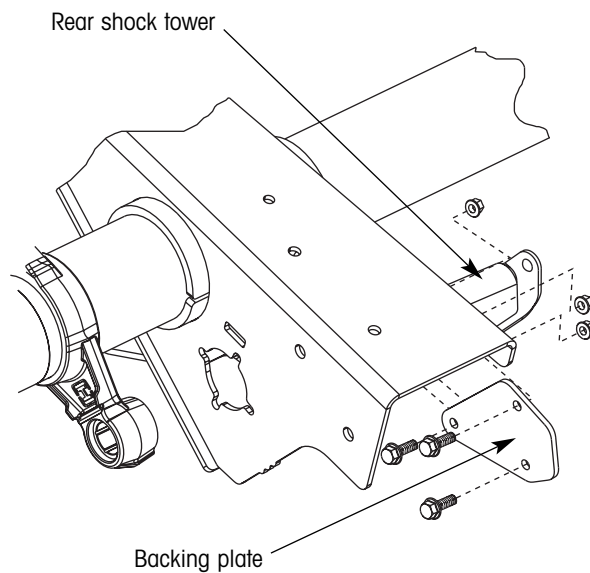

Figure 4. Reinforcement kit installation
2. From inside the suspension beam, position the backing plate in place, aligning the holes in the plate with the holes in the beam (figure 4).